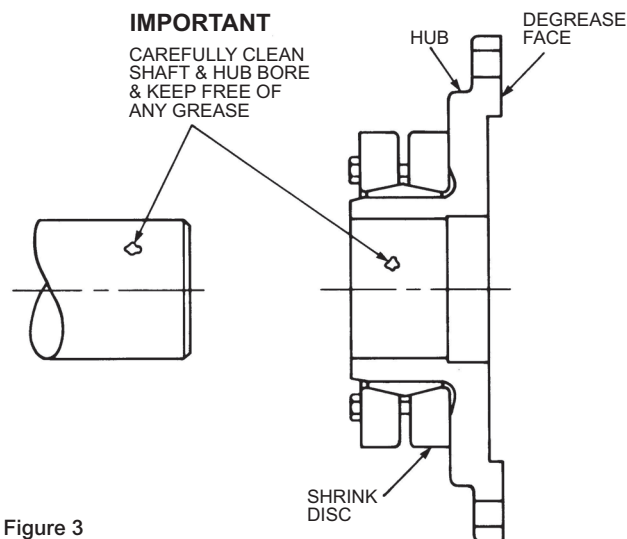

Figure 3
1. Thoroughly clean, degrease, and dry coupling hub flange mounting faces, drive and driven shafts. Clean with a non-flammable solvent. See also Figure 3, page 2.
- (4) Degrease hub bore and shaft seat. See Figure 3.